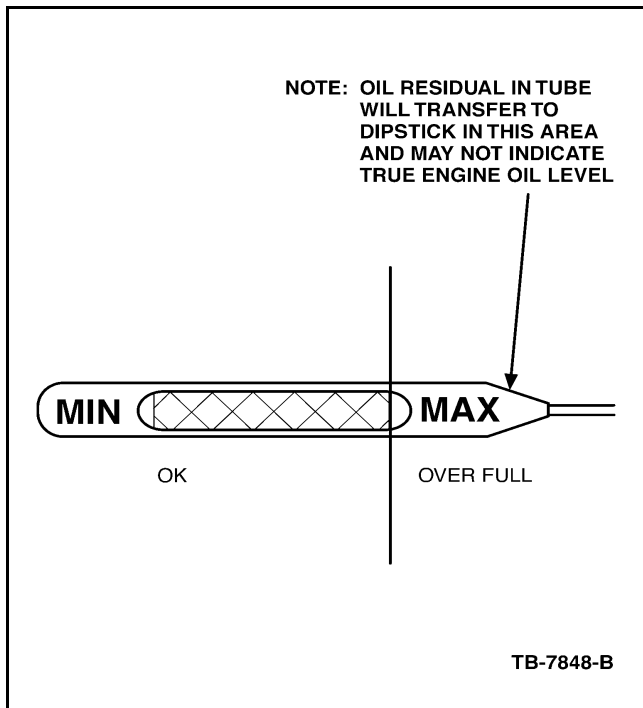

Figure 2 - Article 04-9-3
- b. If oil is above MAX mark (Figure 2), remove the oil pan drain plug and drain oil (including oil filter housing). LEAVE THE PLUG OUT DO NOT ADD ANY OIL AT THIS TIME. Proceed to Step 2.